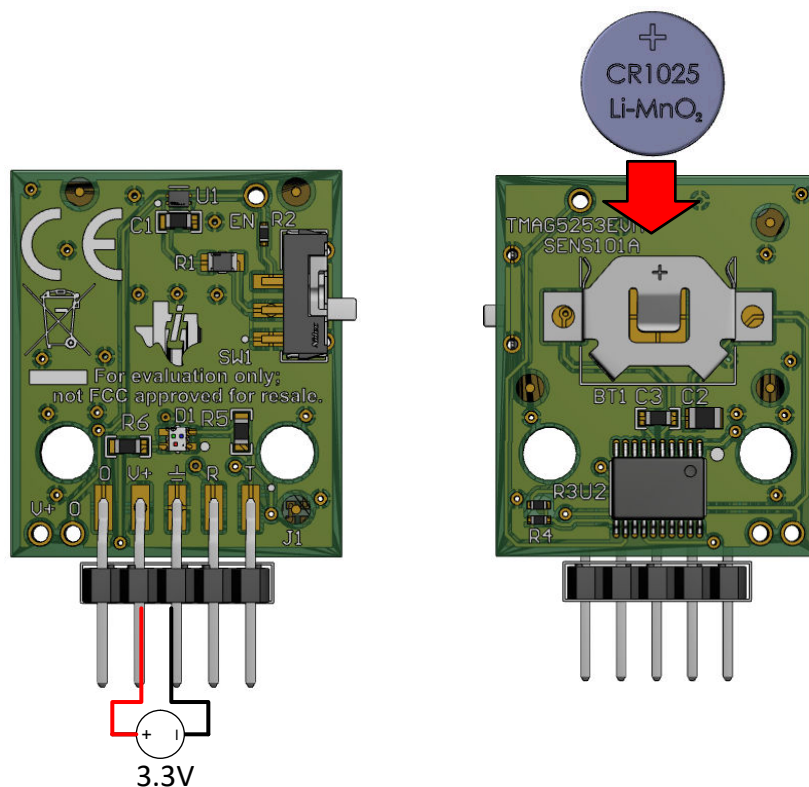

Figure 3-1. Powering On EVM
- Apply a 3.3-V potential (see Figure 3-1)
- Insert a CR1025 coin cell battery into the holder (see Figure 3-1)